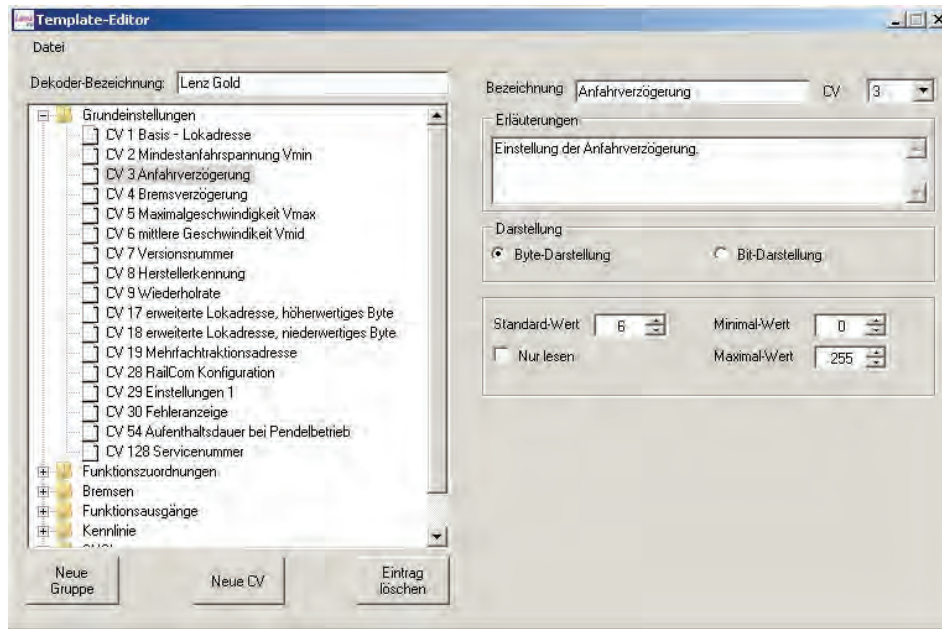

Fig. 3: Design templates for any decoder - exactly as you like
- ✓ Integrated editor for decoder descriptions facilitates the designing of customised decoder templates (fig. 3)